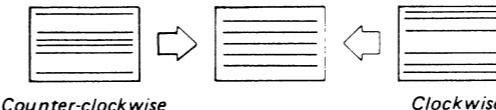

Fig. 29-3
4. Adjust V. LIN GAIN by turning DA board RV22 as shown in Fig. 29-3.